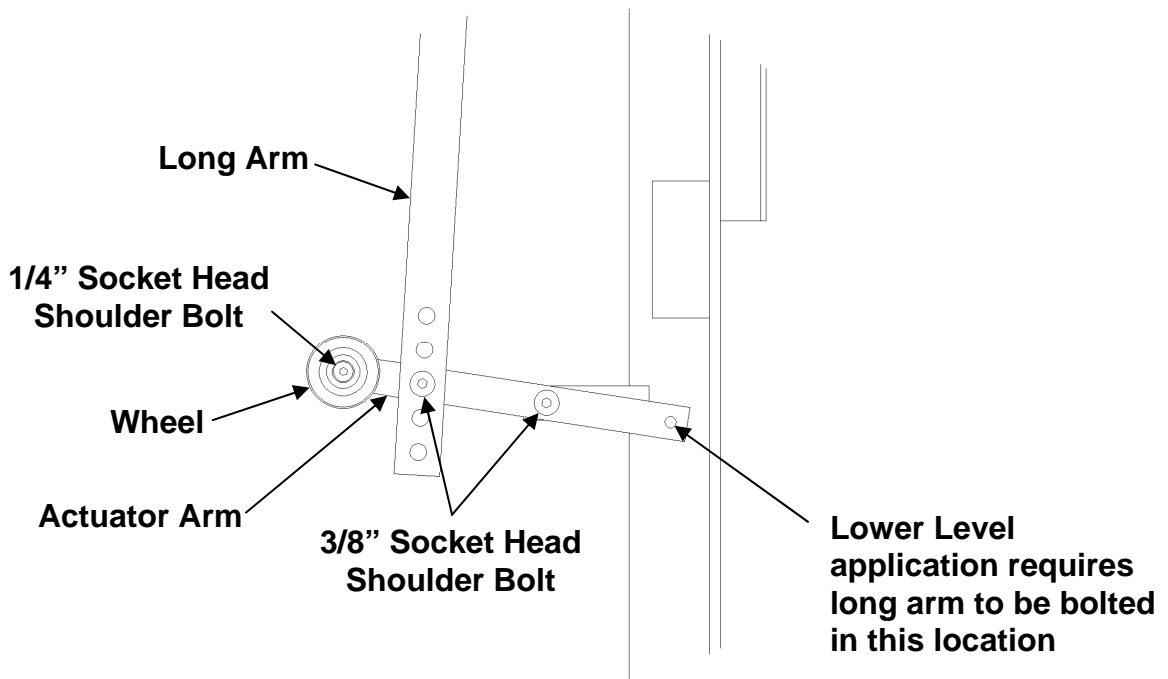
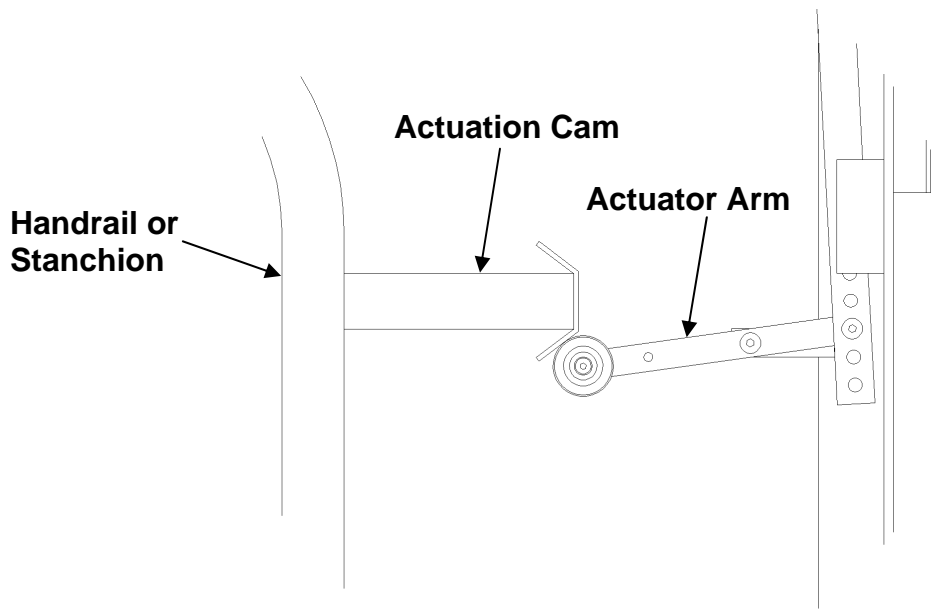

Figure 16 – Mid-Position Linkage (Upper Level Application Shown)
Figure 17 – Lower Level Cam Actuation
5. Install the mid-position linkage to the gate post (see **Figure 16**). The actuator arm is rotated down when the platform is at the lower level, and up when the platform is at the upper level. The linkage position will need to be selected depending on which level the gate is installed (see **Figures 17 & 18**).